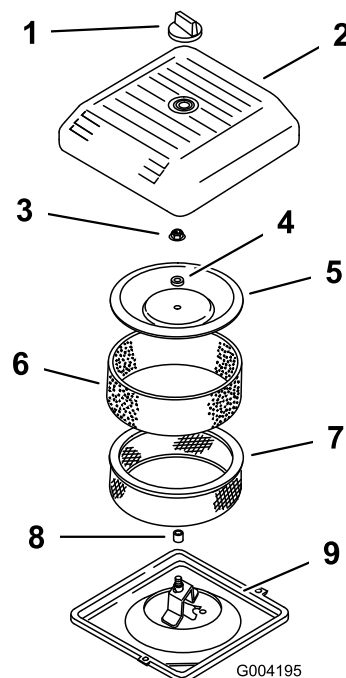

Figure 44
3. Unscrew the knob and remove the air cleaner cover (Figure 44).
4. Carefully slide the foam pre-filter off of the paper element (Figure 44).
5. Unscrew the cover nut and remove the cover, spacer and paper filter (Figure 44).
2. Place the air cleaner assembly onto the air cleaner base (Figure 44).
3. Install the cover, spacer and secure it with the cover nut (Figure 44). Torque the nut to 95 inch-lb (11 N-m).
4. Install the air cleaner cover and secure with the knob (Figure 44).